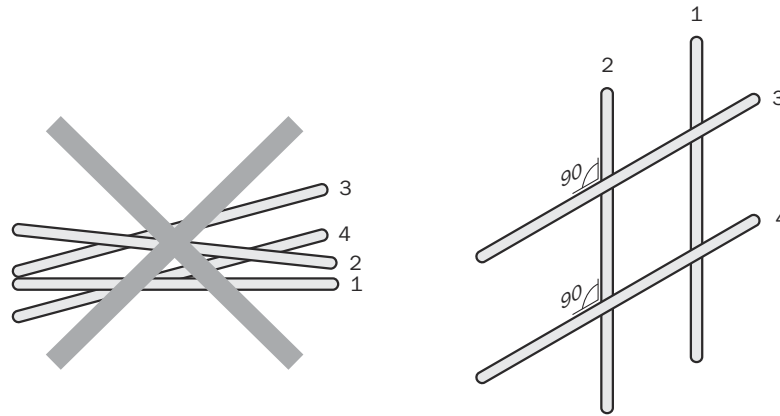

Figure 14: Cross cables at right angles
- ▶ Cables in groups 1, 2 and 3, 4 must be crossed at right angles, see figure 14.